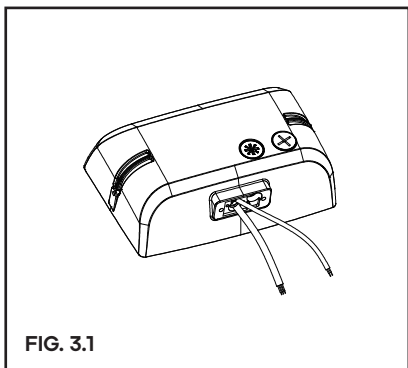

FIG. 3.1
Step 1: Take the lamp out of package; (figure 3.1)